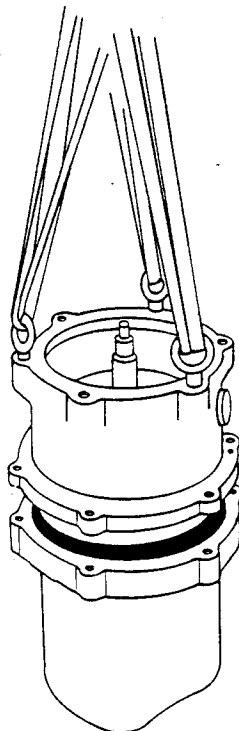

Figure 4. Separating Lower Motor Housing And Assembled Parts From Upper Motor Housing
See Figure 4, and install three 1/2-16 UNC lifting eyes (not supplied) in the tapped holes for the capscrews (87) in the lower motor housing, and hook a three-leg sling to the lifting eyes. Use a suitable hoist to support the pump.
Lubricate the O-ring (10) with light oil and install it in the groove on lower motor housing (71). Install a three-leg sling in the lower motor housing (see Figure 4) and lower the assembled housing, rotor shaft and bearings into the upper motor housing. Use caution to guide the upper ball bearing (14) into the bearing bore in the upper housing, and make sure the holes for the capscrews (8) are aligned. Tap the lower motor housing with a soft-faced mallet until fully seated in the upper motor housing. **Be careful** not to cut the O-ring (10) on the upper motor housing shoulder.